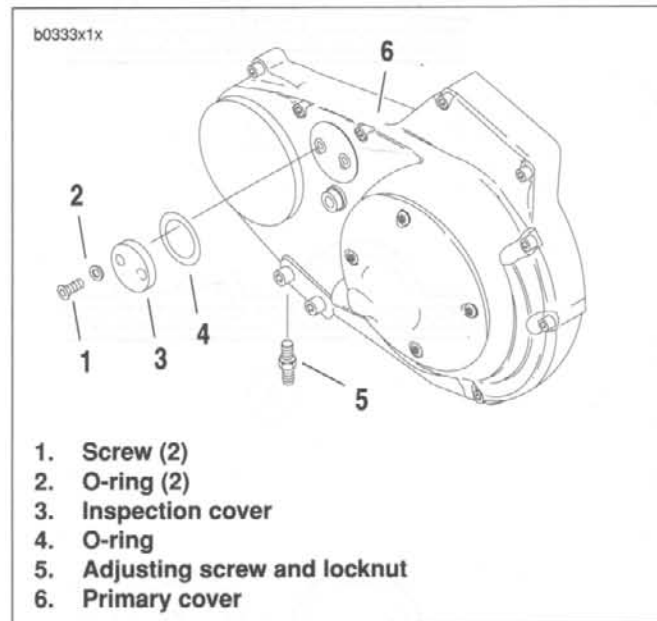
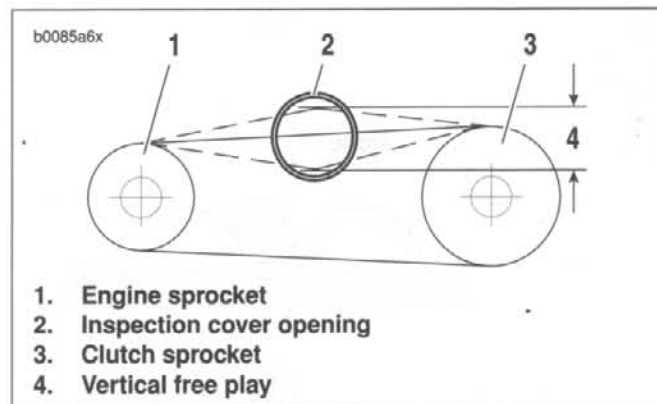

Figure 1-45. Primary Chain Inspection Cover
Figure 1-46. Measuring Primary Chain Tension
See Figure 1-45. Measure primary chain tension through the inspection cover (3) opening. Adjust primary chains not meeting vertical free play specifications.
1. See Figure 1-45. Remove two screws (1) and O-rings (2).
2. Remove inspection cover (3) and O-ring (4) from primary cover (6).
3. See Figure 1-46. Check primary chain tension by measuring vertical free play (4).
- a. Measure vertical free play through inspection cover opening (2).
5. See Figure 1-45. Install O-ring (4).
6. Fasten inspection cover (3) to primary cover (6) using two screws (1) with O-rings (2). Tighten to 40-60 in-lbs (4.5-6.8 Nm).